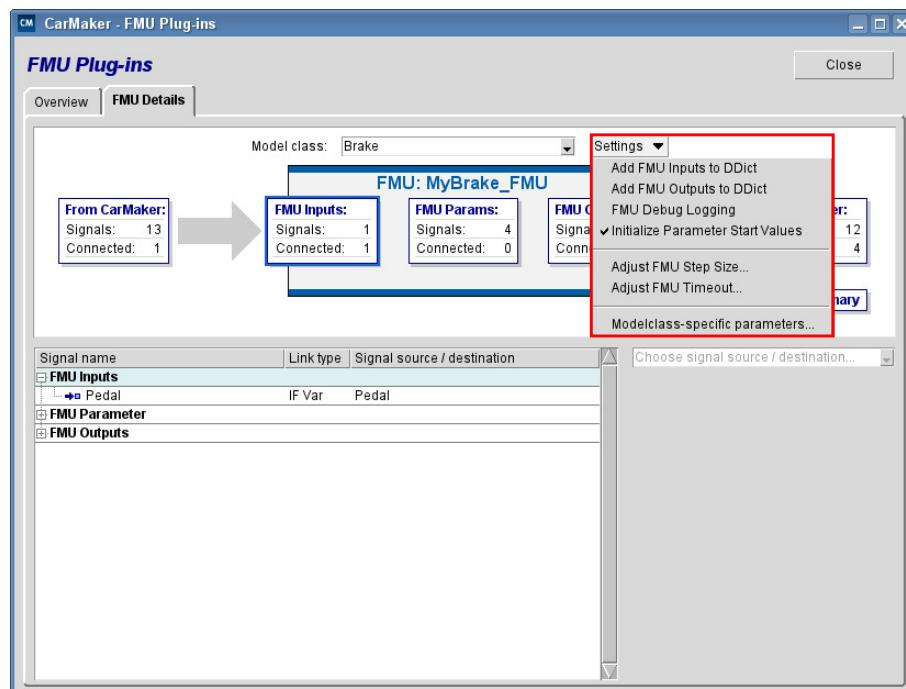

Figure 9.4: Settings drop down menu with additional options
- Import FMU configuration** If the same or a similar FMU with identical input/output parameters was integrated in your CarMaker simulation environment before, the respective parameters are automatically assigned and must not be connected to the suitable parameters again. If you want to adopt a previously defined configuration from another FMU, you can import the complete configuration by choosing *Import FMU configuration* from the *Settings* menu (see Figure 9.4).
Alternatively, the Debug logging for an FMU can be activated on tab *FMU Details* by right-clicking on the overview in the upper part of the window and selecting *FMU Debug Logging* in the menu that appears (see Figure 9.4). In the same way debug logging can be turned off again. This option will write to CarMaker’s log file.